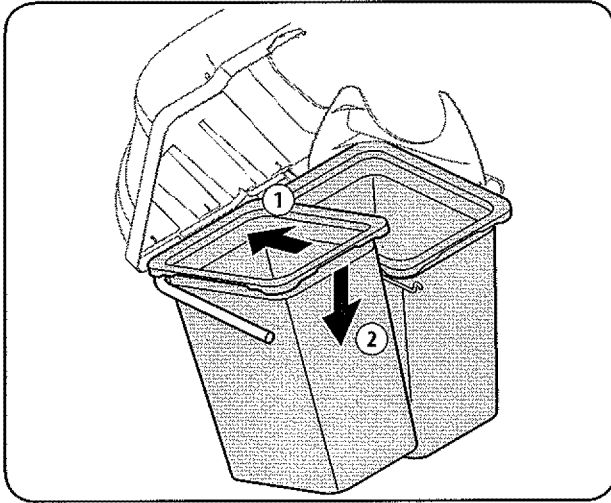

Figure 4-13
- Install both bag assemblies onto the bag support brackets by inserting the front edge in first, as seen in 1 of Figure 4-13, and setting the back edge down until it fits into the assembly (2).